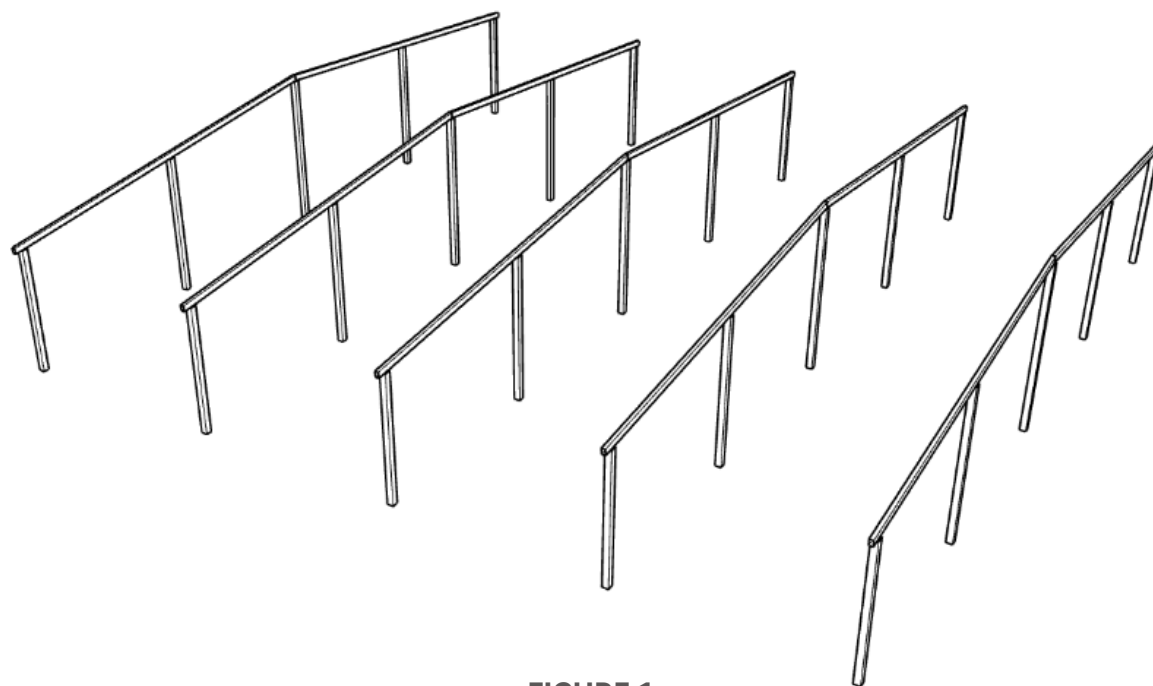

FIGURE 1
- The main keel plane should be flat and have sufficient strength, and the drainage slope should meet the design requirements (as shown in Figure 1). It is recommended that the drainage slope be between 6° and 10° and not less than 6°.